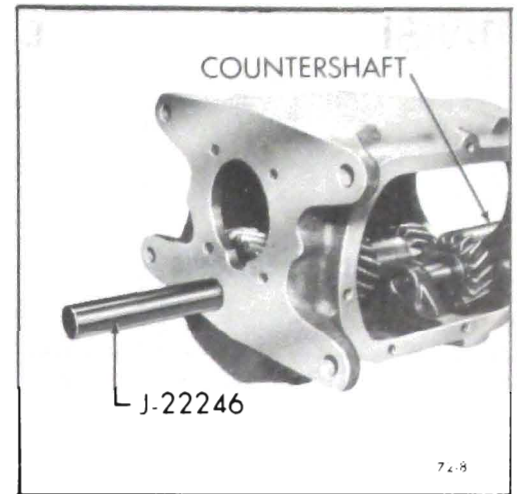

Figure 72-34 - Installing Counter gear Shaft
2. Install countergear into case. Install countergear shaft from rear of case. Make certain woodruff key is in position. See Figure 72-34.